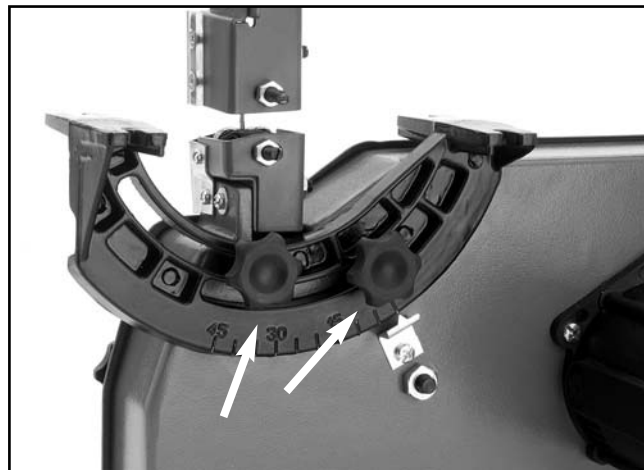

Figure 10. The trunnion knob bolts.
5. Remove the knob bolts that secure the trunnion to the saw and set the trunnion aside (**Figure 10**).